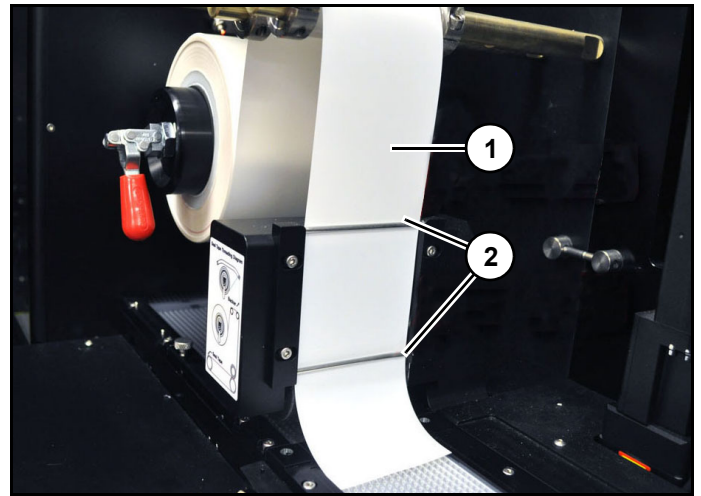

Figure 7
6. Pull (1) through and ensure seal tape is between Nip Roller block and silver rods (2). (Figure 7)